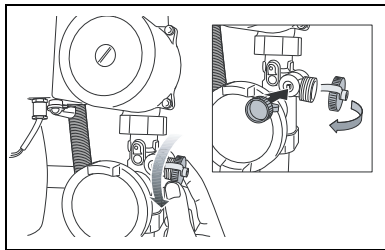

Fig. 5 Removing cap from drain cock
- Unscrew the sealing cap (fig. 5).